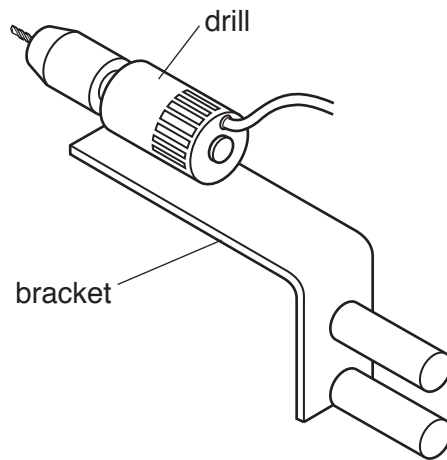

Fig. 7
- (ii) The drilling assembly and bracket are shown in Fig. 7. Use sketches and notes to show a method of fixing the drill to the bracket so that it can be removed if necessary and is accurately aligned.